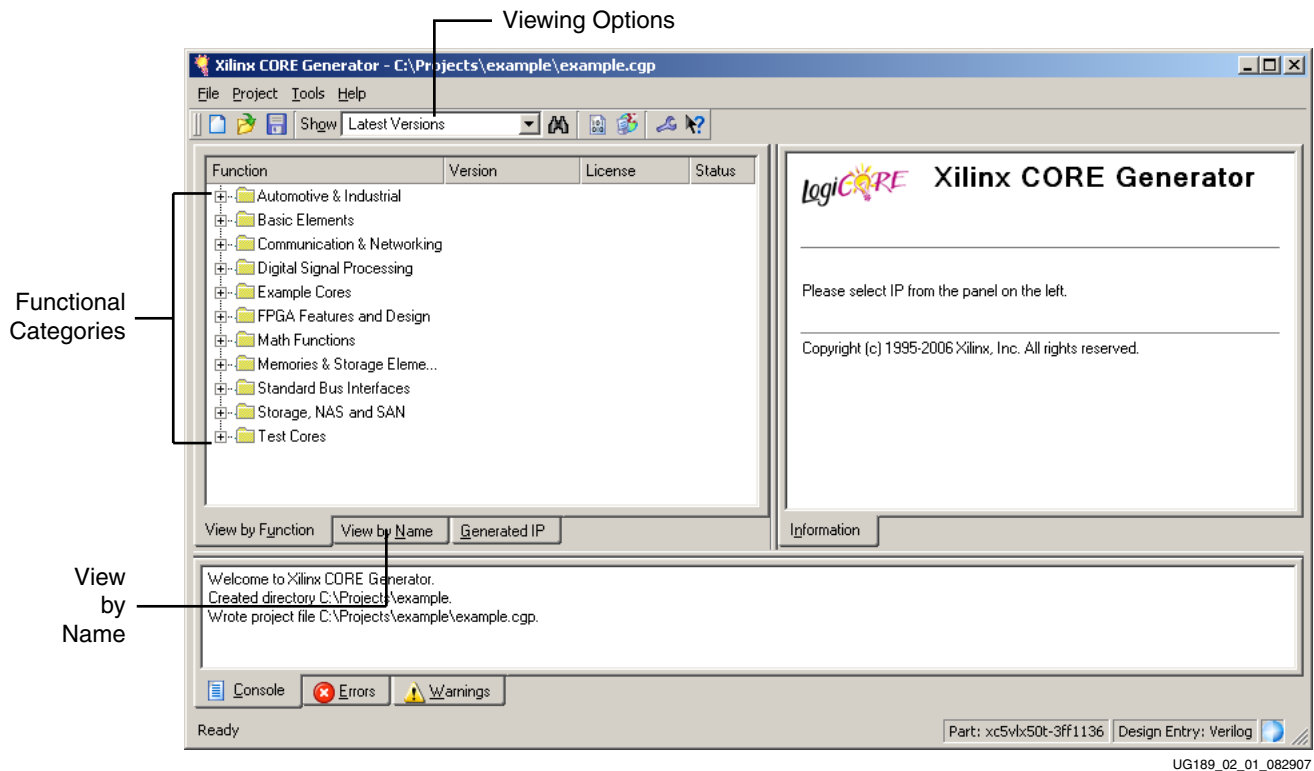

Figure 2-1: CORE Generator Window
2. After creating a new LXT/SXT/FXT project or opening an existing one, the IP core functional categories appear at the left side of the window, as shown in Figure 2-1.